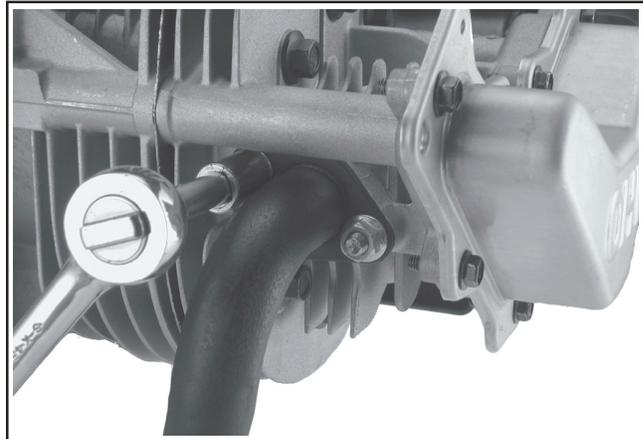

Figure 8-4. Removing Exhaust Flange Nuts.
2. Remove the muffler and gasket from the exhaust port studs. See Figure 8-4.